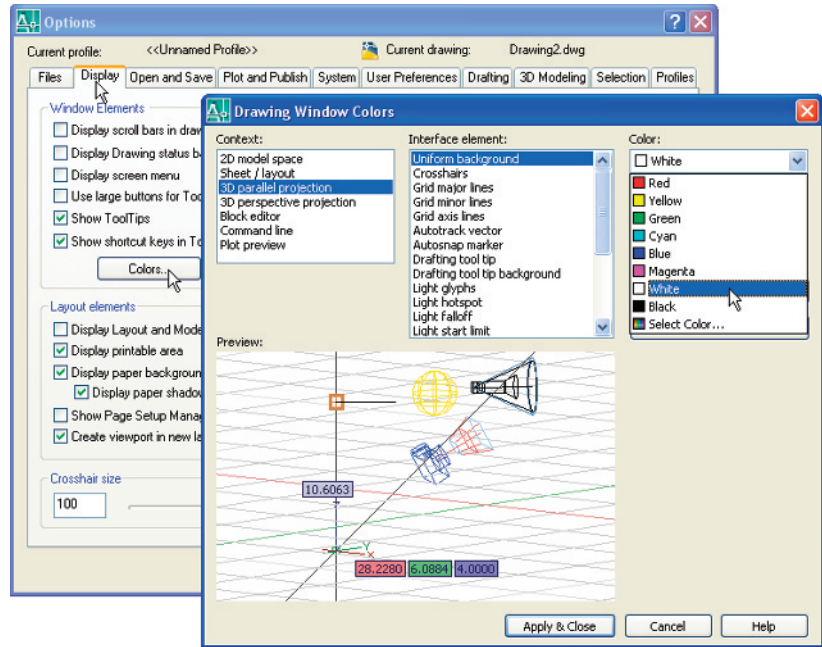

Fig. 16.3 Set **Uniform background** colours to **White**
4. Open the **Options** dialog (*right-click* in command window). *Click* the **Display** tab followed by a *click* on the **Colors...** button. Then *click* **3D parallel projection** and set **Uniform background** to **White** (Fig. 16.3).